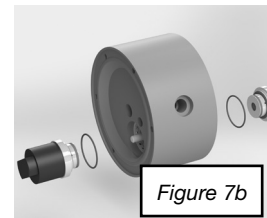

Figure 7b
Remove the end caps, the main-valve and the air valve shaft out of the air-valve (27). Screw one end cap flush into the center housing (1) by using the AV tool (see figure 7b). Put one of the six air-valves housing o-rings part of (27) into the end cap.